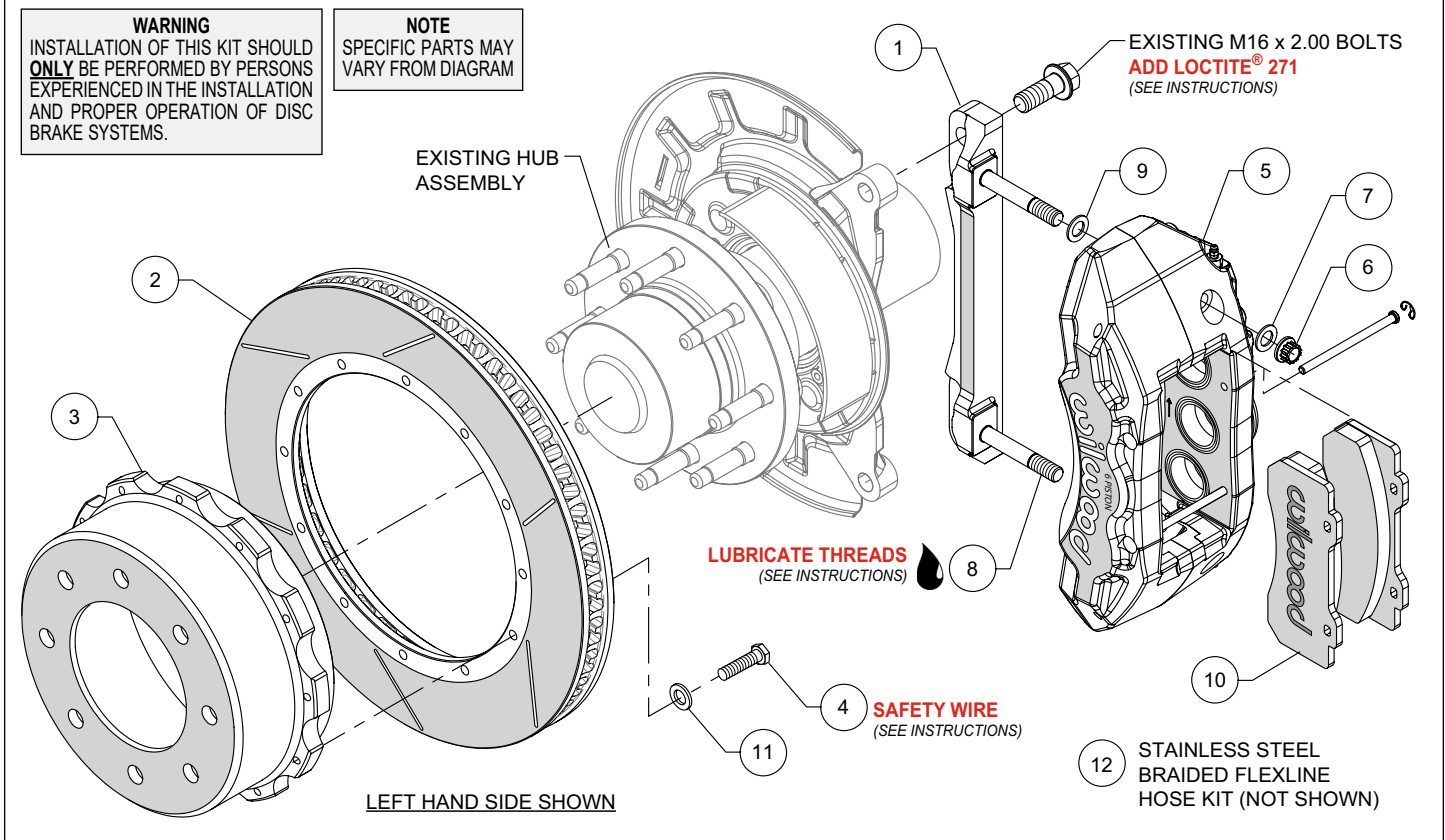
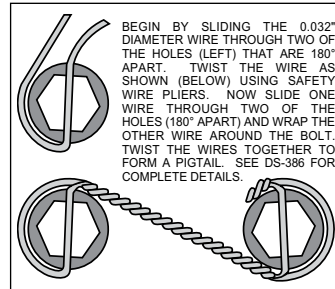

Figure 1. Typical Installation Configuration
Figure 3. Safety Wire Diagram
NOTE: Numbers in parenthesis refer to the parts list and Figure 1 on the preceding pages.
- The caliper mount bracket (1) should initially be installed with clean, dry threads on the mounting bolts. Orient the bracket as shown in Figure 1 and Photo 1, and install using saved OE bolts. Temporarily tighten the mounting bolts. **NOTE:** *The bracket must fit squarely against the mount bosses on the upright.* Inspect for interference from casting irregularities, machining ridges, burrs, etc. Remove the mounting bolts one at a time and apply red *Loctite*[®] 271 to the threads and torque to manufacturer's specifications.
- Orient the rotor (2) and the hat (3) as shown in Figure 1 and Photo 2. Attach rotor to hat using bolts (4) and washers (11). Torque bolts to 25 ft-lb using a criss-cross pattern. The bolts must be safety wired using standard 0.032 inch diameter stainless steel safety wire as shown in Figure 3. Please refer to Wilwood's data sheet DS-386 (available at www.wilwood.com/Pdf/DataSheets/ds386.pdf) for complete safety wire installation instructions.
- NOTE:** *This kit contains distinct right and left hand calipers that must be mounted in a specific direction, as described below.* Lubricate the caliper mounting studs (8) with lightweight oil. Initially place one .032" thick shim (9) on each stud as shown in Figure 1 and Photo 3. Mount the caliper (5) onto the bracket (1) using lock nuts (6) and washers (7), Figure 1. Ensure that the caliper is mounted so that the largest pistons are at the rotor exit end of the caliper, in relation to the direction of rotor rotation. Temporarily tighten the lock nuts.